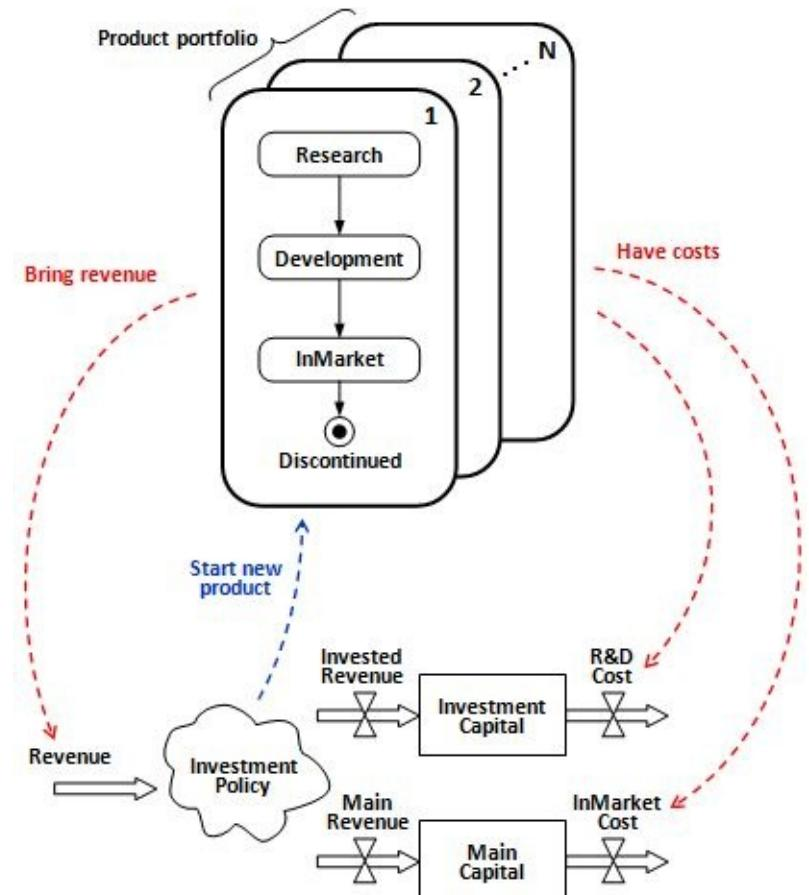

Figure 6.26 Architecture of the product portfolio and investment policy model
6. Return to the editor of *Product*, and create parameters , variables, and the statechart as shown in Figure 6.26. As you can see, the numeric values in the problem statement have become parameters in the model.